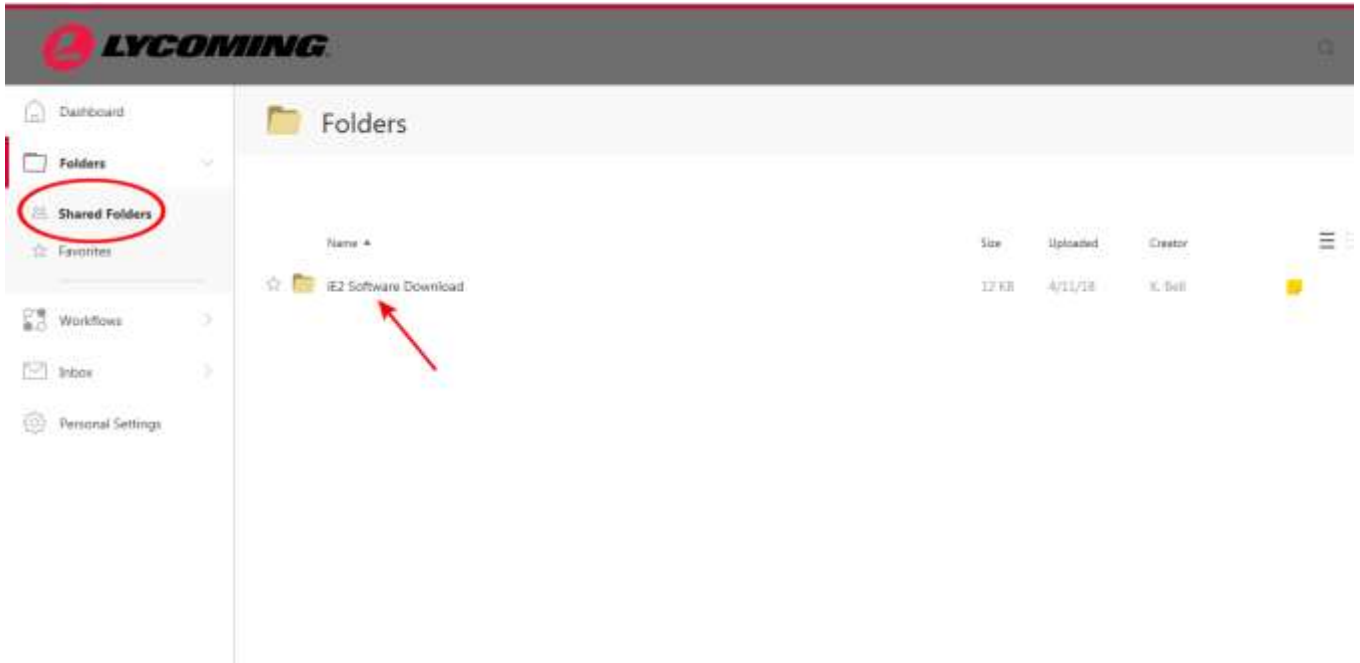

Figure C-9
7. After log-in, navigate to the **Shared Folders** page (Figure C-9) and double-click on the **iE2 Software Download**.